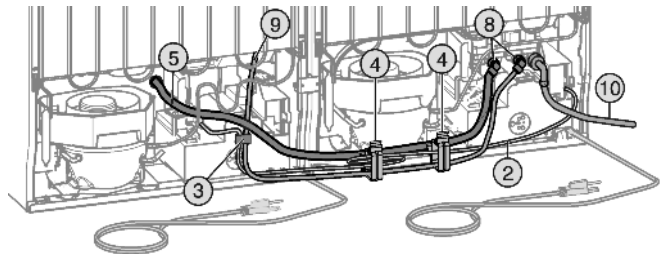

Fig. 16
- ▶ Push the plug-in elbow *Fig. 16 (8)* of the insulated hose *Fig. 16 (5)* into the connection (blue) of the solenoid valve as far as it will go.
- ▶ Push the plug-in elbow *Fig. 16 (8)* of the other hose *Fig. 16 (9)* into the connection (red) of the solenoid valve as far as it will go.
- ▶ Place the non-insulated hose *Fig. 16 (9)* into the holder *Fig. 16 (3)* and the holding clips *Fig. 16 (4)*.
- ▶ Also place the cable of the bus connection module *Fig. 16 (2)* into the holder *Fig. 16 (3)* and the holding clips *Fig. 16 (4)*. Close the holding clips.
- ▶ Lay the insulated hose *Fig. 16 (5)* on the appliance floor behind the holding clips *Fig. 16 (4)*.
- ▶ Fit the water connection *Fig. 16 (10)* (see 5).